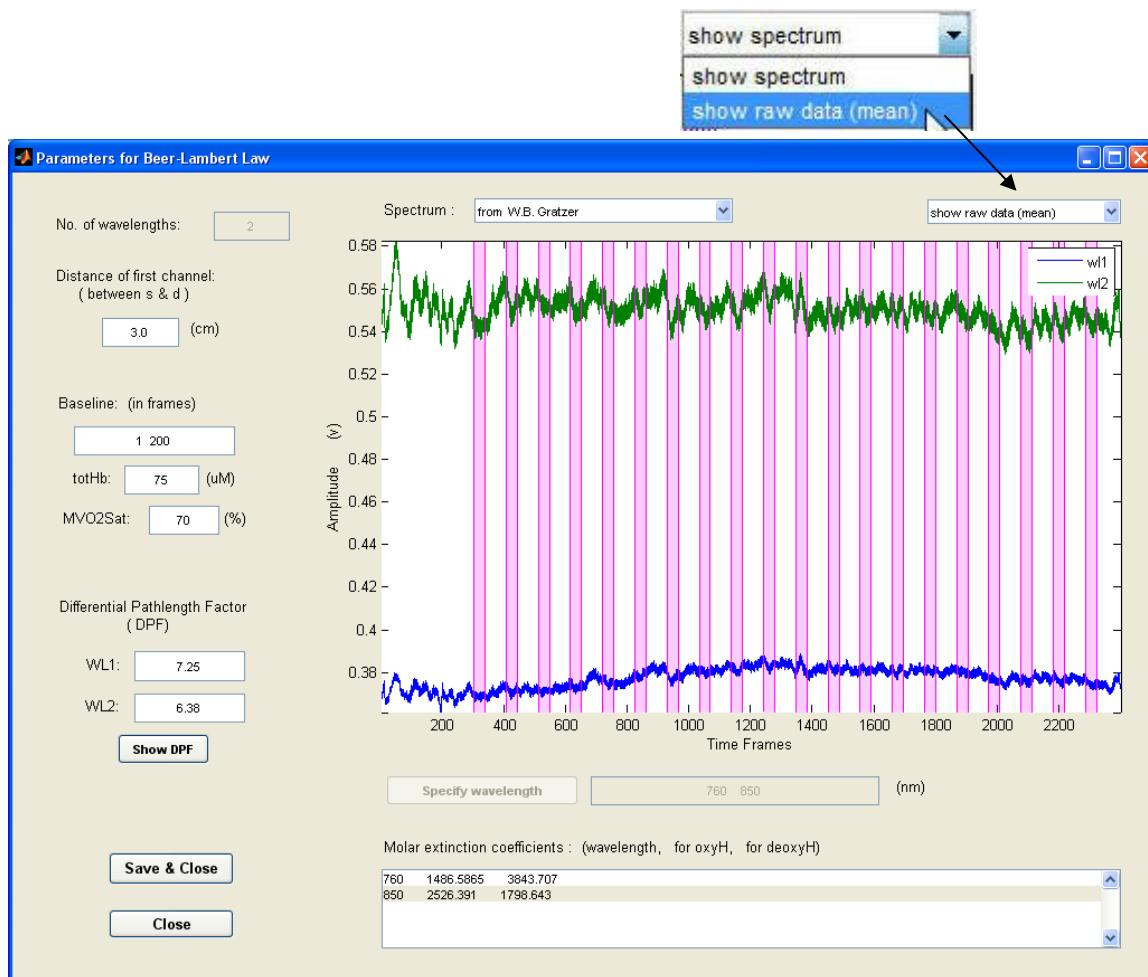

Figure 4-4: Spatial mean display with event markers
The ‘Baseline’ field, (3), refers to the time period that corresponds to a baseline wherein subjects are typically resting quietly. The default setting is set to the full time course of the data set. Depending on the experimental conditions, users may wish to restrict this to the period having shorter duration. To help you to specify the baseline, the parameter GUI provides a way to view the spatial mean time series of your filtered raw data and the event markers in Figure 4-4 the axes of the GUI. The following figures show an example how to view the data and event markers in the GUI. Clicking the pull-down menu in upper right corner of the GUI and selecting the option "show raw data (mean)", you can see the data and event markers in the axes of the GUI, as shown in Figure 4-4.